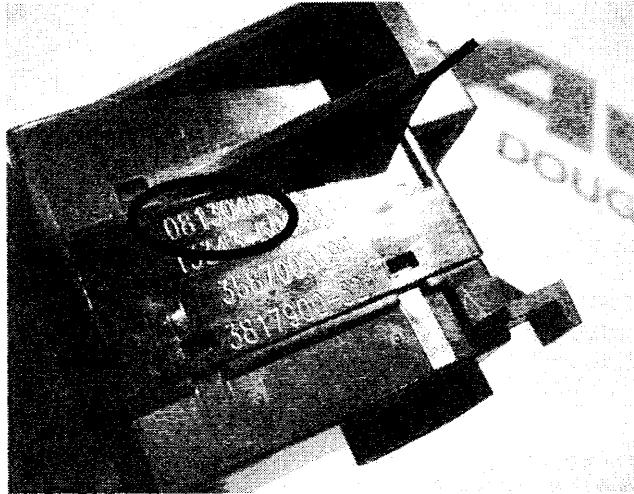

Figure 3
**NOTE:** The example in Figure 3, 081304, corresponds to a build date of August 13th of 2004.